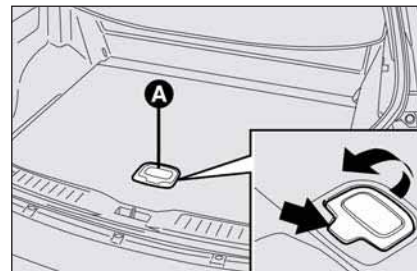
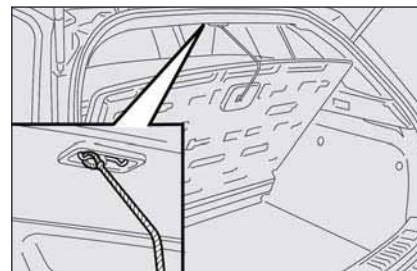

fig. 109
fig. 110
- raise handle **A**-fig. 109 pressing in the point shown by the arrow at “PUSH”, lift the loading surface and secure it by the proper wire to the upper hook on the roof as shown in the figure **fig. 110**.
- raise handle **A-fig. 109** pressing in the point shown by the arrow at “PUSH”, use the handle to remove the loading surface from the seat on the suitcase board by raising it slightly and pulling it outwards; the knuckle on the seat side will facilitate this manoeuvre.
- raise handle **A-fig. 109** pressing in the point shown by the arrow at “PUSH”, use the handle to raise the loading surface from the boot mat and pull it outwards; the knuckle on the seat side will facilitate this manoeuvre.